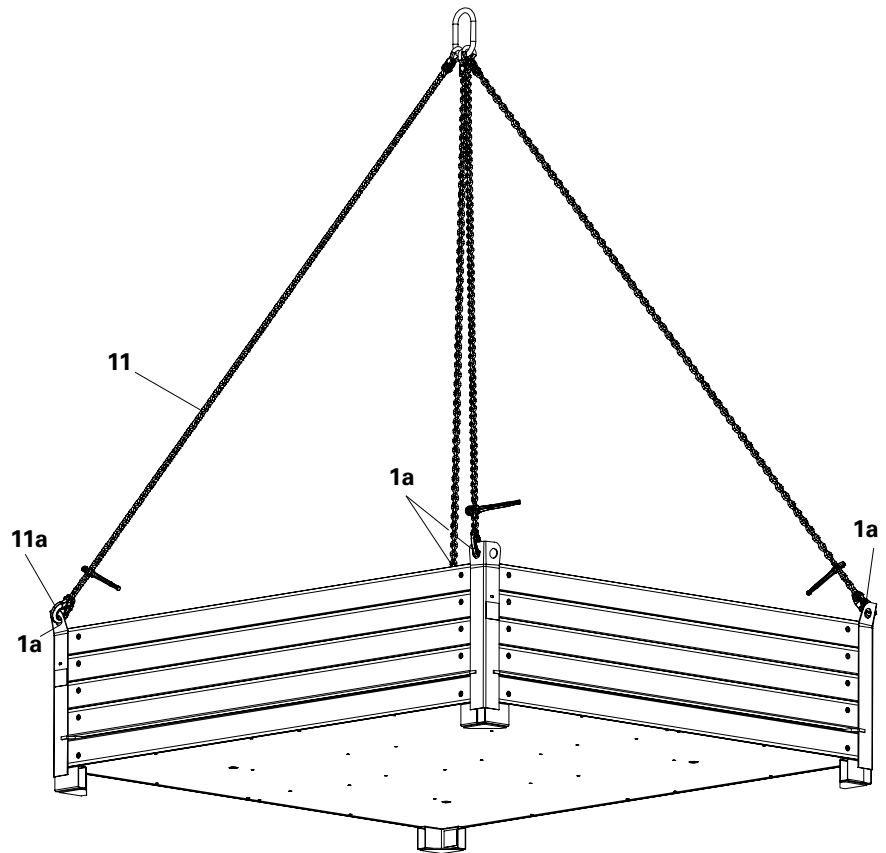

Fig. A1.03
→ Four load-bearing points (Fig. A1.03)
Unload the stacks using the crane with the help of Lifting Gear Combi (11) or 4-sling lifting gear. (Fig. A1.03)